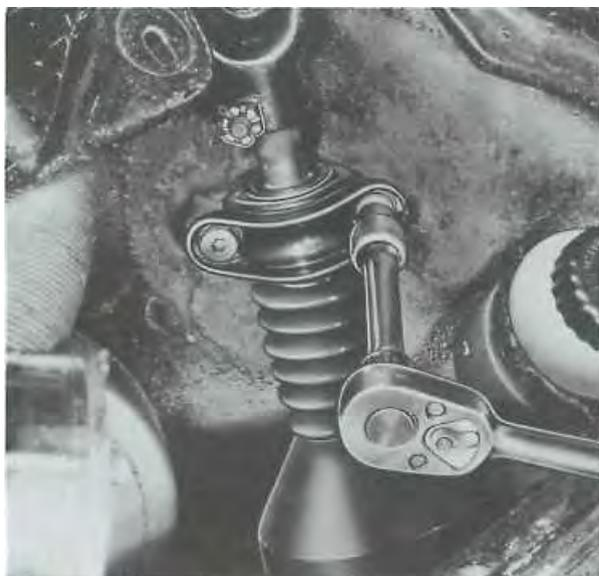

Fig. 97
10. Place spring washers onto Allen bolts which retain bushing cap of steering lower shaft, torque to 2, 5 mkp (18,1 lb/ft). See Fig. 97.